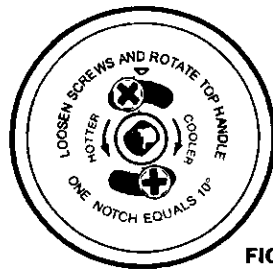

FIG. 2
**Example:** If the oven temperature is too cool and ALL foods are requiring a longer time period to cook, the *knob should be rotated to move the top screw toward the word "HOTTER"*. (See Fig. 2)